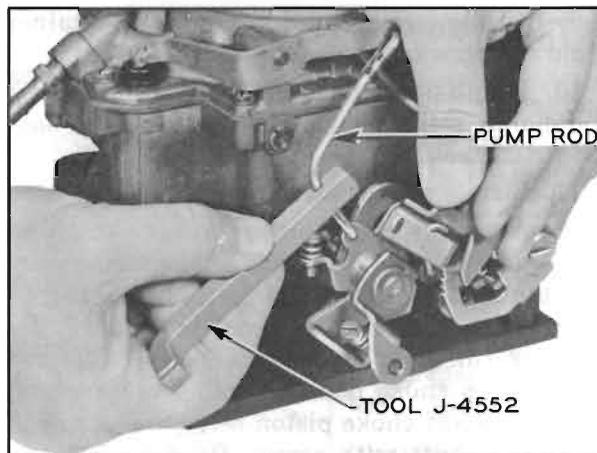

Figure 3-97—Adjusting Pump Plunger
21. Push fast idle cam to full down position and back out throttle stop screw until throttle valves can be fully closed. With throttle held closed, measure vertically from under side of pump plunger offset to air horn casting. Bend pump rod as required to obtain  $1\frac{1}{64}$ " measurement using Tool J-4552. See figure 3-97.